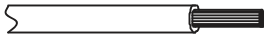

Fig. 17 — Stripping the Wire
2. Strip a suitable length of the insulation layer as shown in Fig. 17.